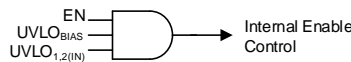

Figure 48. Simplified Turnon Control
Controlling when a single power supply turns on can be difficult in a power distribution network (PDN) because of the high power levels inherent in a PDN, and the variations between all of the supplies. The LDO turnon and turnoff time is set by the enable circuit (EN) and undervoltage lockout circuits ( $UVLO_{1,2(IN)}$  and  $UVLO_{BIAS}$ ), as shown in Figure 48 and Table 2.